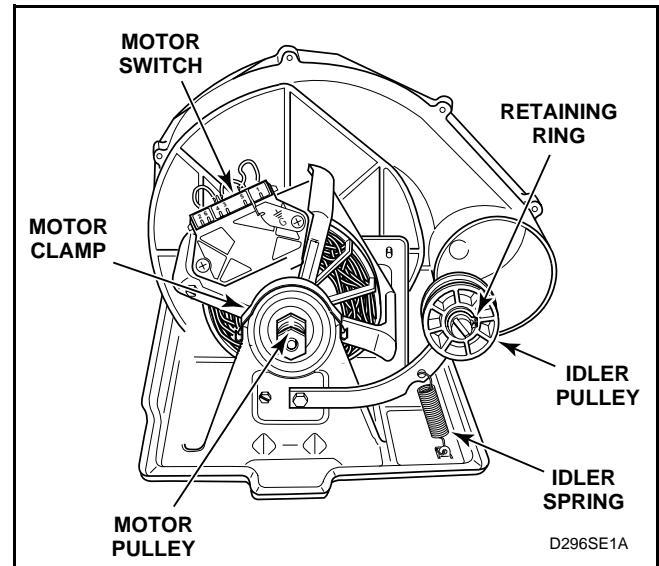

Figure 20
- g. Disengage motor wire harness terminal block from motor switch by pressing in on the movable locking tabs (located on each end of the terminal block) and pulling away from motor. See *Figures 20 and 22*.
See *Figure 20* for motor and idler pulley removal.
- (2.) Pry two motor clamps off motor mounting bracket with screwdriver. See *Figure 20*, then lift motor out of mounting bracket.
- Disengage belt from motor and idler pulley. See *Figure 20*.